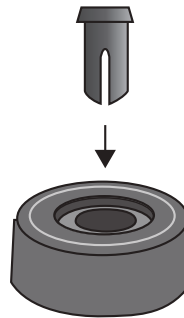

Figure 19. Inserting the Rivet Housing into the Bumper Foot
2. Inset a rivet housing into a bumper foot. Refer to Figure 19.